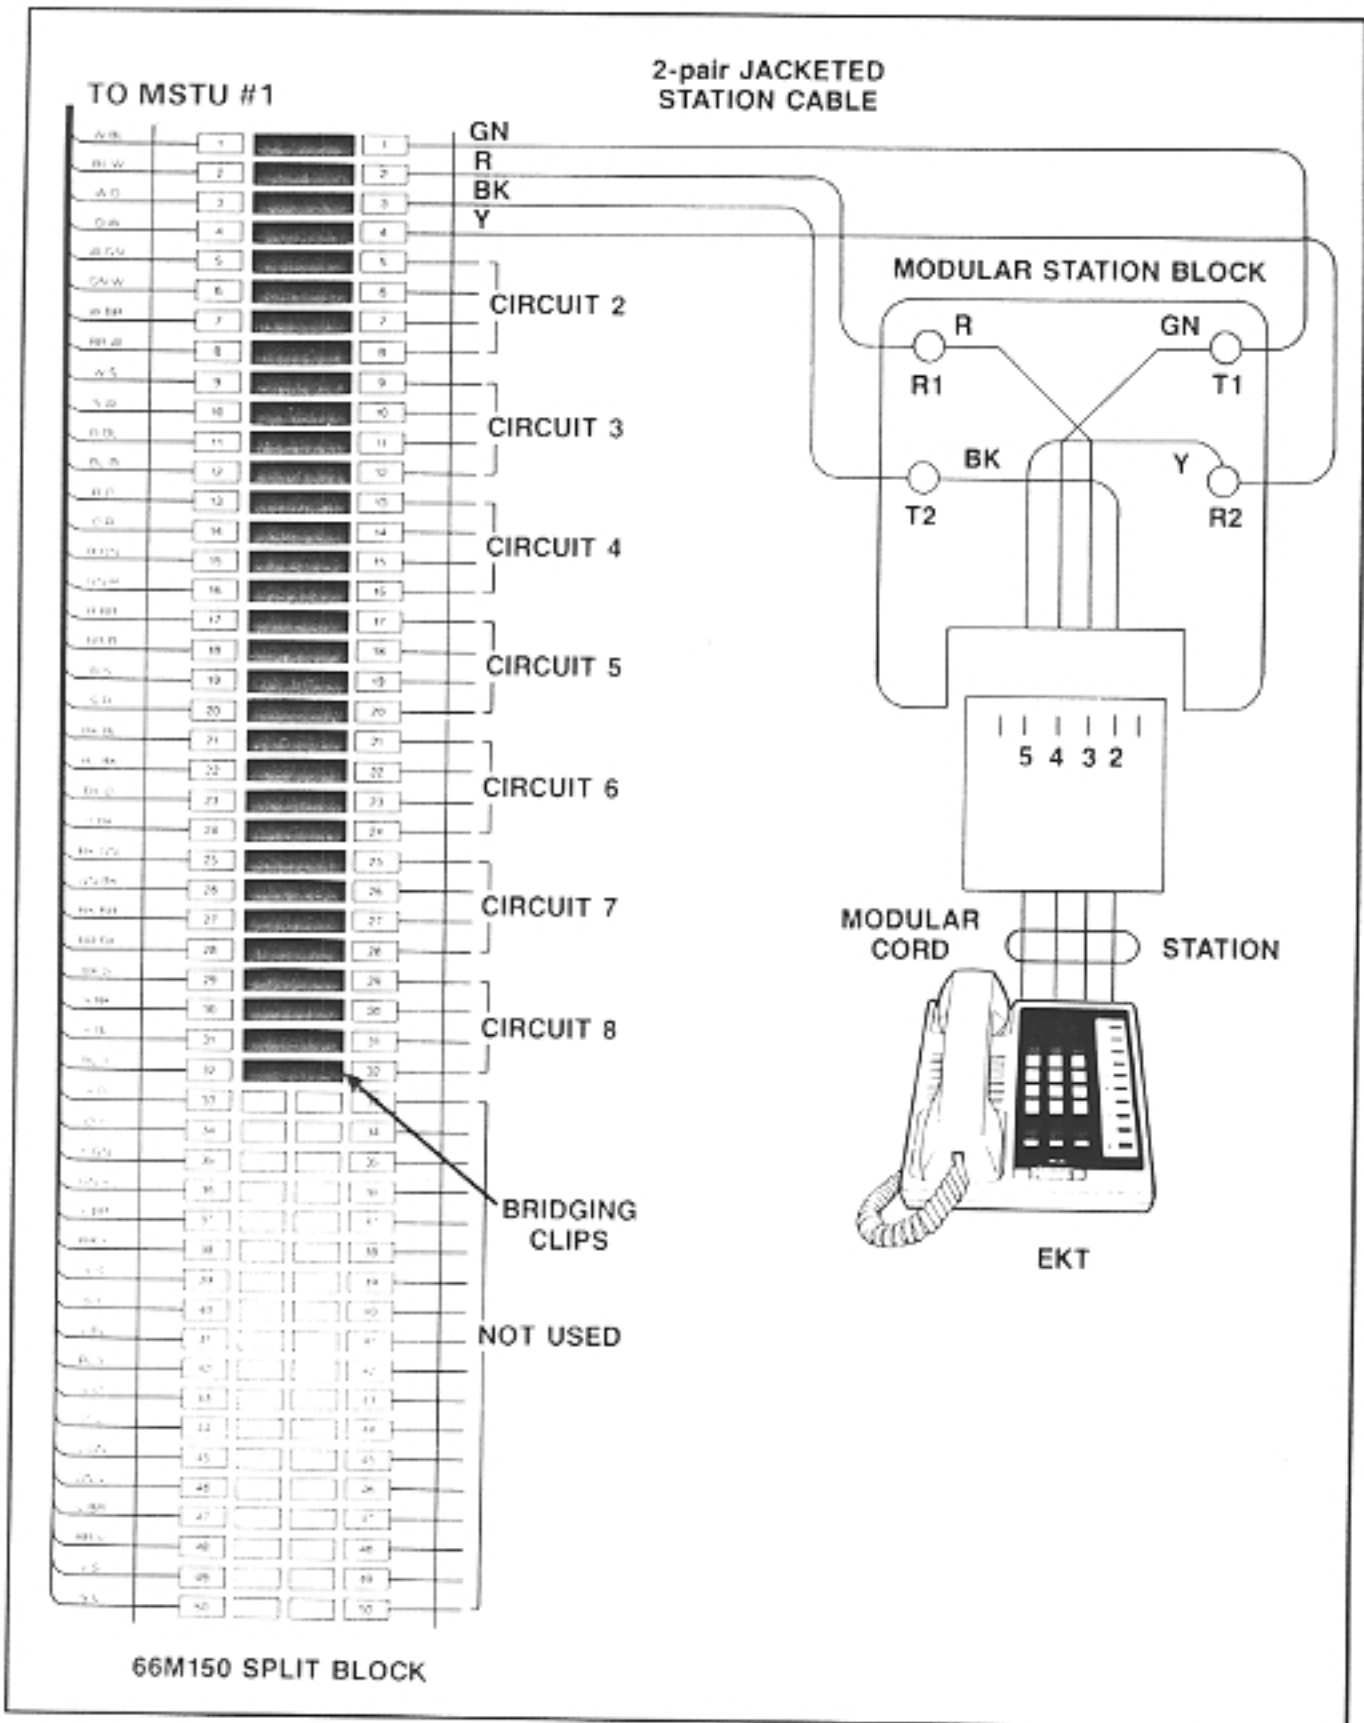

FIGURE 21—MDF/EKT WIRING (Stations 10 ~ 17)
07.05 Use the industry-standard color code sequence and terminate the cables on the MDF blocks as shown in Figures 21 and 22. (Use one side of each block for each cable.)
07.15 Figures 21 and 22 show the EKT wiring arrangement.
07.16 Various manufacturers of modular station blocks have employed different color codes to indicate the sequence of pairs in their blocks. However, the color code most commonly used is shown in Figures 21 and 22. Verify the configuration of your modular blocks before connecting the station cables.
07.21 Intercom codes are assigned permanently to specific MSTU cable appearances in **Strata VI**. Make sure the station cables are connected to the proper terminals (see Figures 21 and 22).